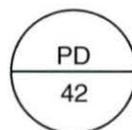

Figure 62. Instrument Tag
1. Determine the measured variable and function of the device using the instrument tag in figure 62.